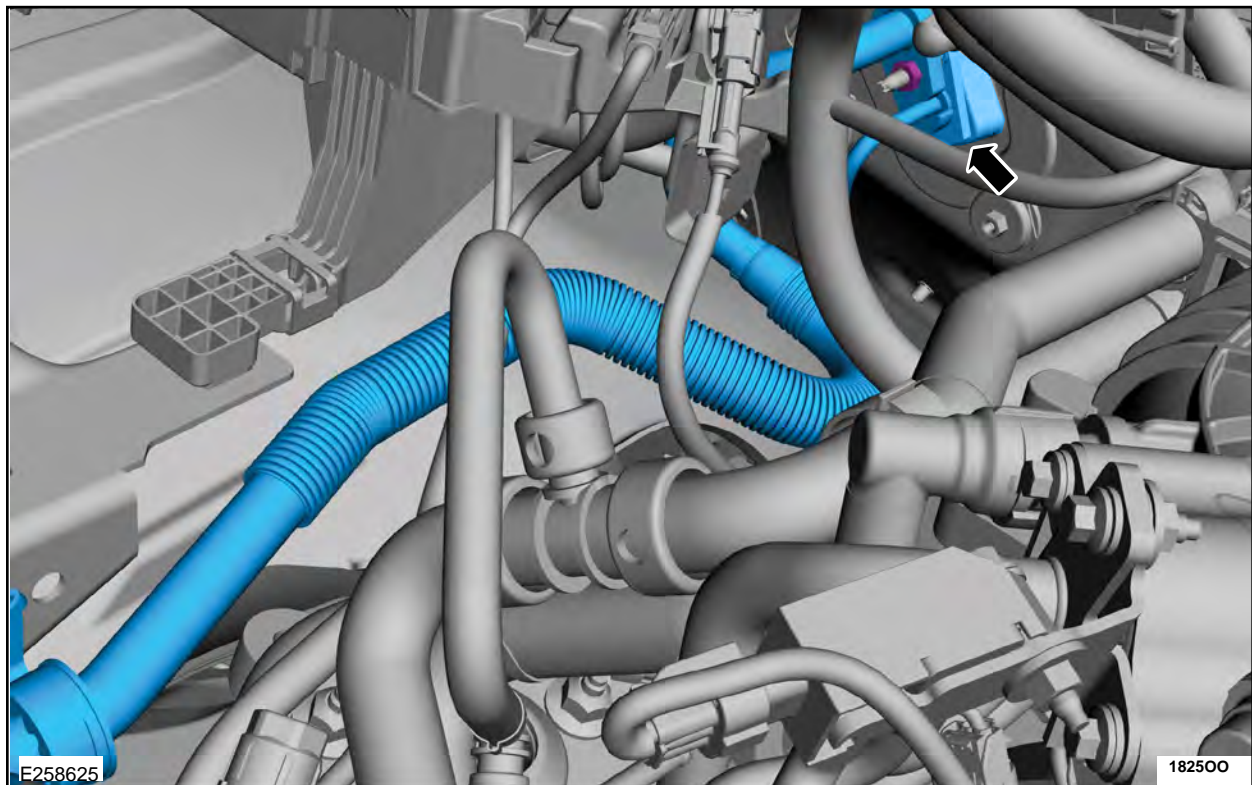

FIGURE 42
84. Install and connect the Thermostatic Expansion Valve Manifold and Tube Assembly to the front climate control housing Thermostatic Expansion Valve. See Figure 42.